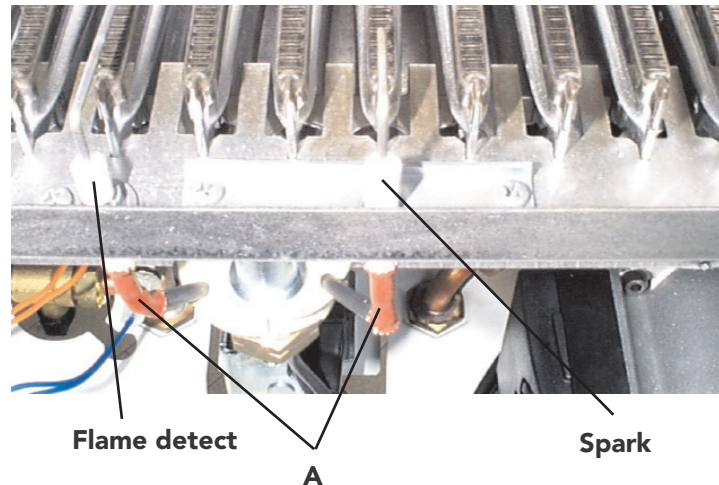

Fig. 24
## **Spark or flame detect electrode (fig. 24)**
- Identify electrode from fig. 24